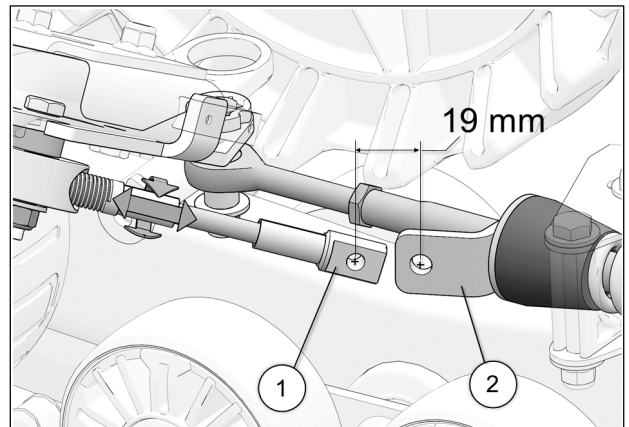

Fig. 23
16. Turn the handlebars to its maximum point of travel on the left. While maintaining pressure on the handlebars, turn threaded rod to adjust length of cable. See Fig. 23
17. Position cable end hole (1), 19 mm [ $\frac{3}{4}$  in.] short of support plate (2) mounting hole. See Fig. 23